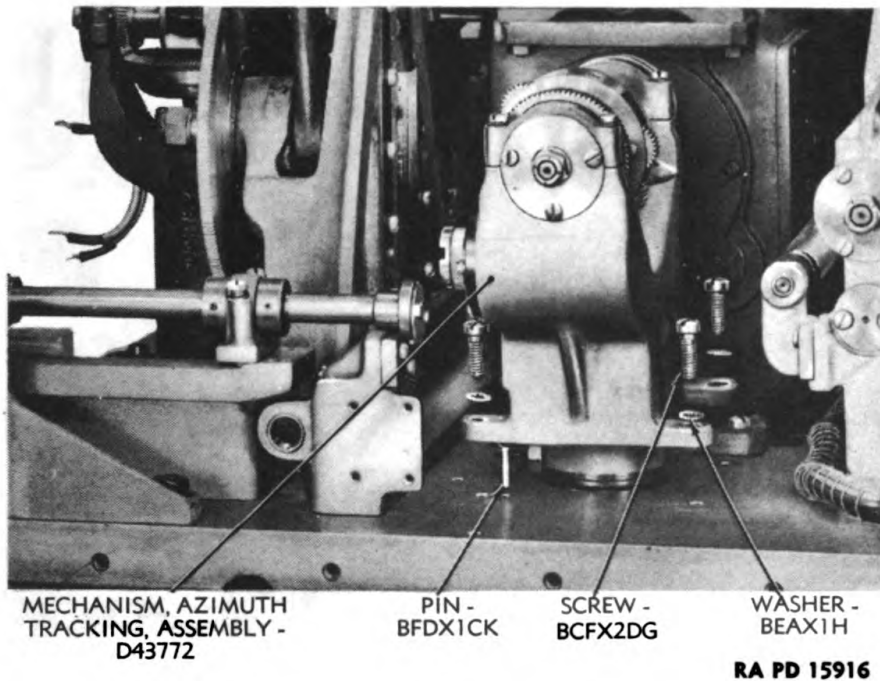

Figure 169 — Removing Azimuth Tracking Mechanism From the Director
- b. Remove the screws in one or both of the brackets which hold the handwheel shaft assembly B172856 (fig. 169) and slide it back